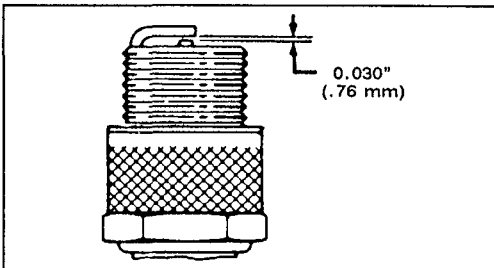

Figure 17
3. Set air gap at 0.030" (0.76 mm) (Fig. 17). Install correctly gapped spark plug and gasket seal. Tighten plug firmly to 15 ft-lb (20 N·m).